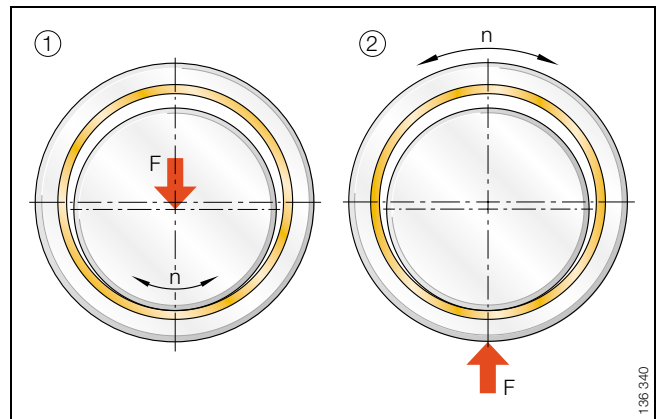

Figure 3 · Correction factor for loading f_A
Correction factor for loading, Figure 3, page 14
- Correction factor for loading f_A , Figure 3